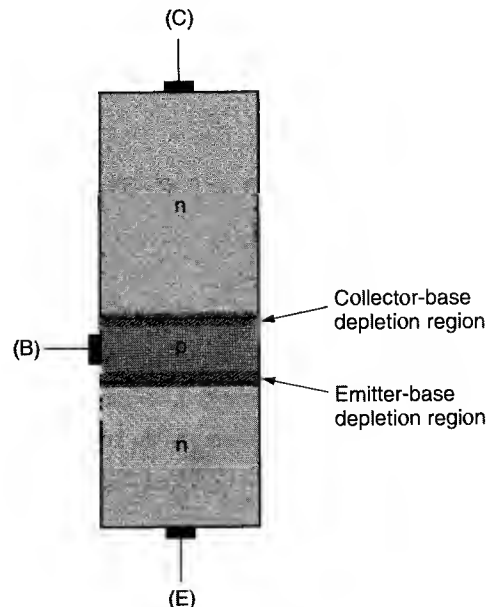

FIGURE 6.5 Zero biasing.
Figure 6.5 shows the *npn* transistor at room temperature with no biasing potential applied. You may recall from Chapter 1 that an unbiased *pn* junction forms a depletion layer at room temperature due to recombination of free carriers produced by thermal energy. These depletion layers are shown in Figure 6.5.
- How would you go about demonstrating that the depletion layers shown in Figure 6.5 exist when no bias is applied to a transistor?